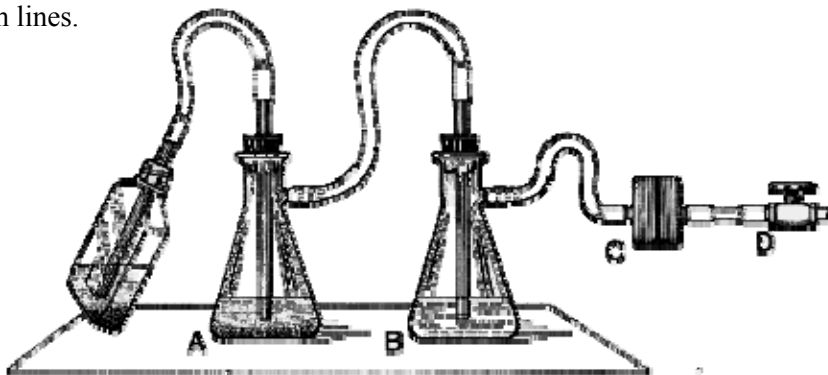

Figure 1
- 4.1 **House Vacuum System:** All connections to the house vacuum system must be suitably trapped to prevent liquids or hazardous materials from entering the system. **When using the plumbed house vacuum system for liquid aspiration or filtration, a double trap setup and hydrophobic in-line filter must be placed in the vacuum line as shown in Figure 1 below.** This trap system will prevent fouling or contamination of the vacuum systems valves, piping and pumps and it is consistent with CDC/NIH guidelines as well as Cornell's Biosafety Manual.
- 4.1.3 The HEPA or PTFE filter (**Item C in Figure 1**) must be replaced at least annually or whenever there is blockage/increased resistance. Several vacuum line protection filters are readily available from major scientific suppliers. Two filters available from Fisher Scientific are listed below: